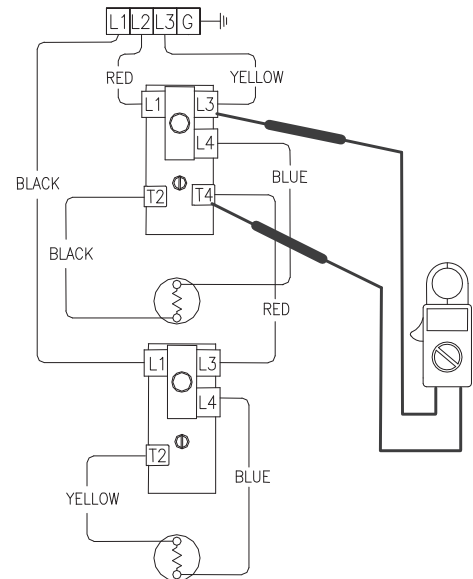

Figure 43
6. Check voltage across terminals L3 & T4 of upper thermostat (See Figure 43).